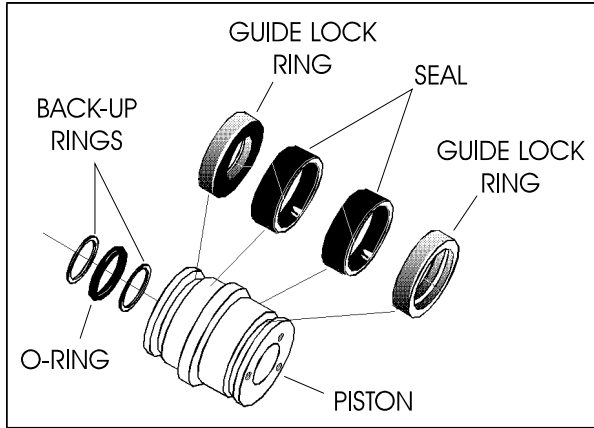

Figure 5-37. Piston Seal Kit Installation
12. Place new guide locks and seals in applicable outside diameter grooves of cylinder piston. (See Figure 5-37. Piston Seal Kit Installation.)